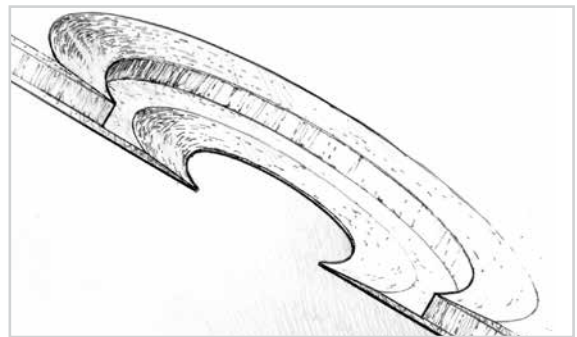

Figure 5-16 Grind a 12-to-1 bevel around the edge of the inner and outer skins.
3. Grind a minimum 12-to-1 bevel around the inner edges of both skins to provide adequate bonding surface when re-laminating the skin repair patches (Figure 5-16).